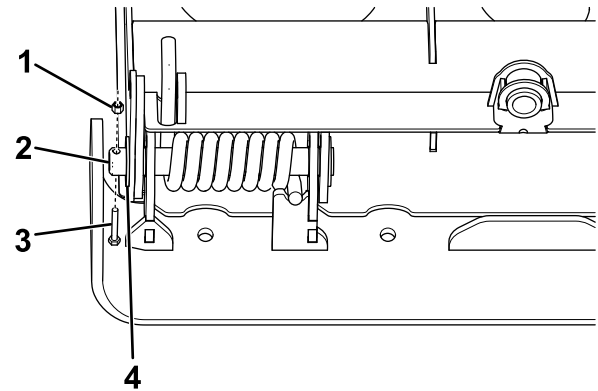

Figure 52
2. Secure the outer spring with the single spring pin, washer (1-1/4 inches), bolt (1/4 x 20 inches), and nut (1/4 inch) as shown in Figure 52.